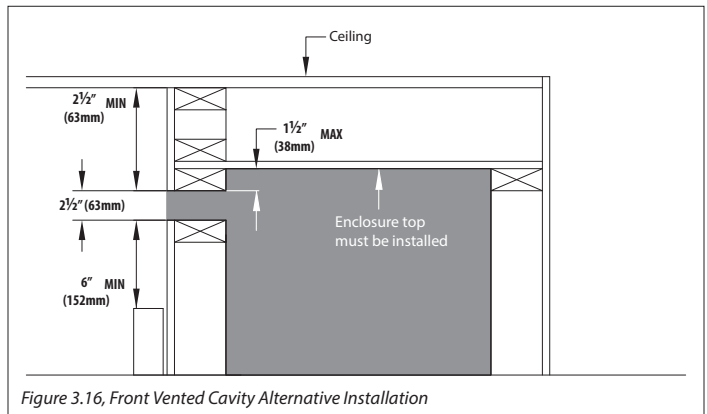

Figure 3.16, Front Vented Cavity Alternative Installation
- Figure 3.16 shows an alternative installation method where you cap off the fireplace cavity so the air discharge opening can be located further down the fireplace chamber. If you cap the fireplace cavity off, it cannot have any vent pipe running through the top with a ceiling firestop. This installation method can alleviate any possible concerns with paint discoloration from heat or dust.